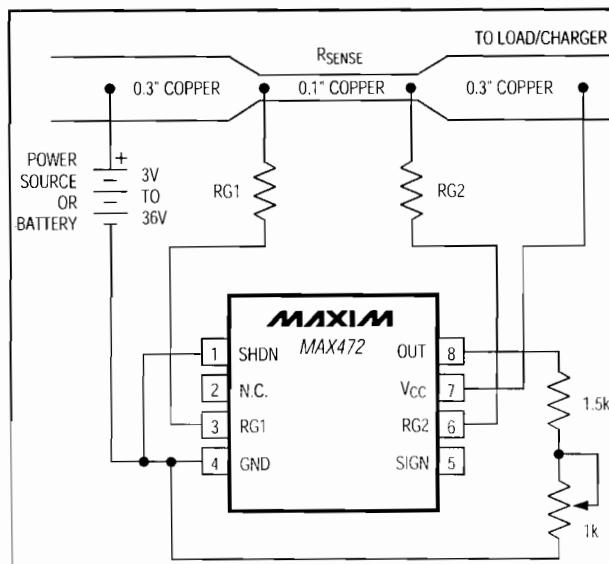

Figure 6. MAX472 Connections Showing Use of PC Board Trace
- Cost:** If the cost of  $R_{SENSE}$  becomes an issue, you may want to use an alternative solution, as shown in Figure 6. This solution uses the PC board traces to create a sense resistor. Because of the inaccuracies of the copper "resistor," you will need to adjust the full-scale current value with a potentiometer. Also, the resistance temperature coefficient of copper is fairly high (approximately 0.4%/°C), so systems that experience a wide temperature variance should take this into account.
In Figure 6, assume the load current to be measured is 10A and that you have determined a 0.3 inch wide, 2 ounce copper to be appropriate. The resistivity of 0.1 inch wide, 2 ounce copper is  $30\text{m}\Omega/\text{ft}$  (see Note 4). For 10A you may want  $R_{\text{SENSE}} = 5\text{m}\Omega$  for a 50mV drop at full scale. This resistor will require about 2 inches of 0.1 inch wide copper trace.